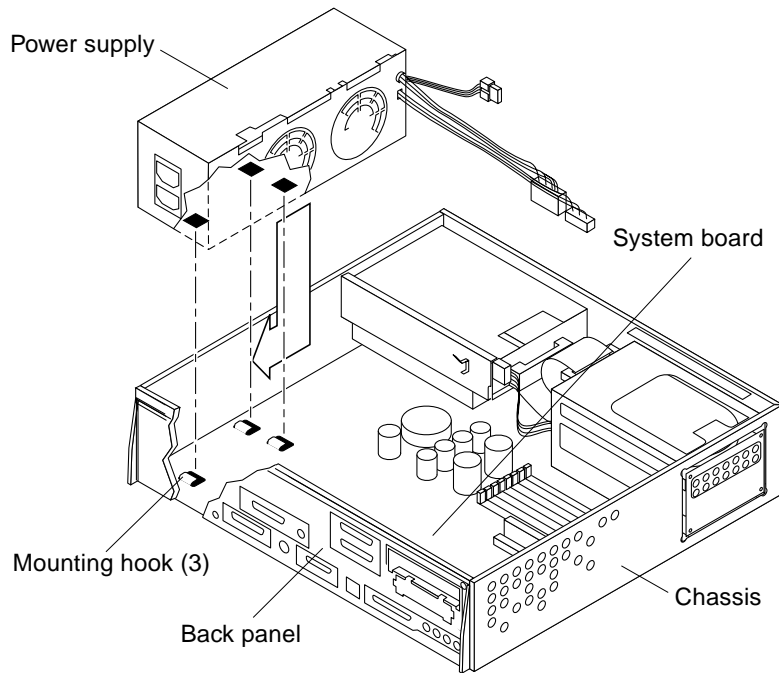

FIGURE 8-2 Replacing the Power Supply
2. Push the power supply toward the chassis rear, engaging the mounting hooks (FIGURE 8-2).